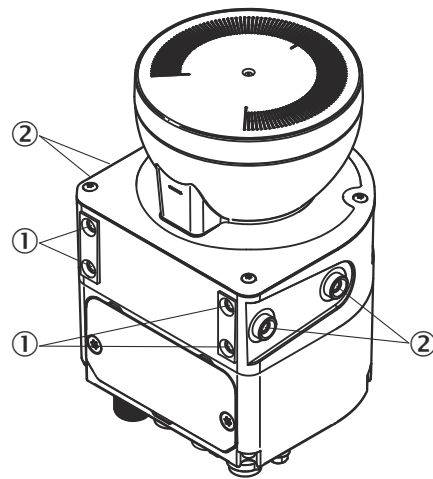

Figure 37: Mounting the safety laser scanner directly
- ① Rear M5 threaded hole
- ② Side M5 threaded hole
- ▶ Use either the rear or the side M5 threaded holes for direct mounting, see figure 37, page 64.